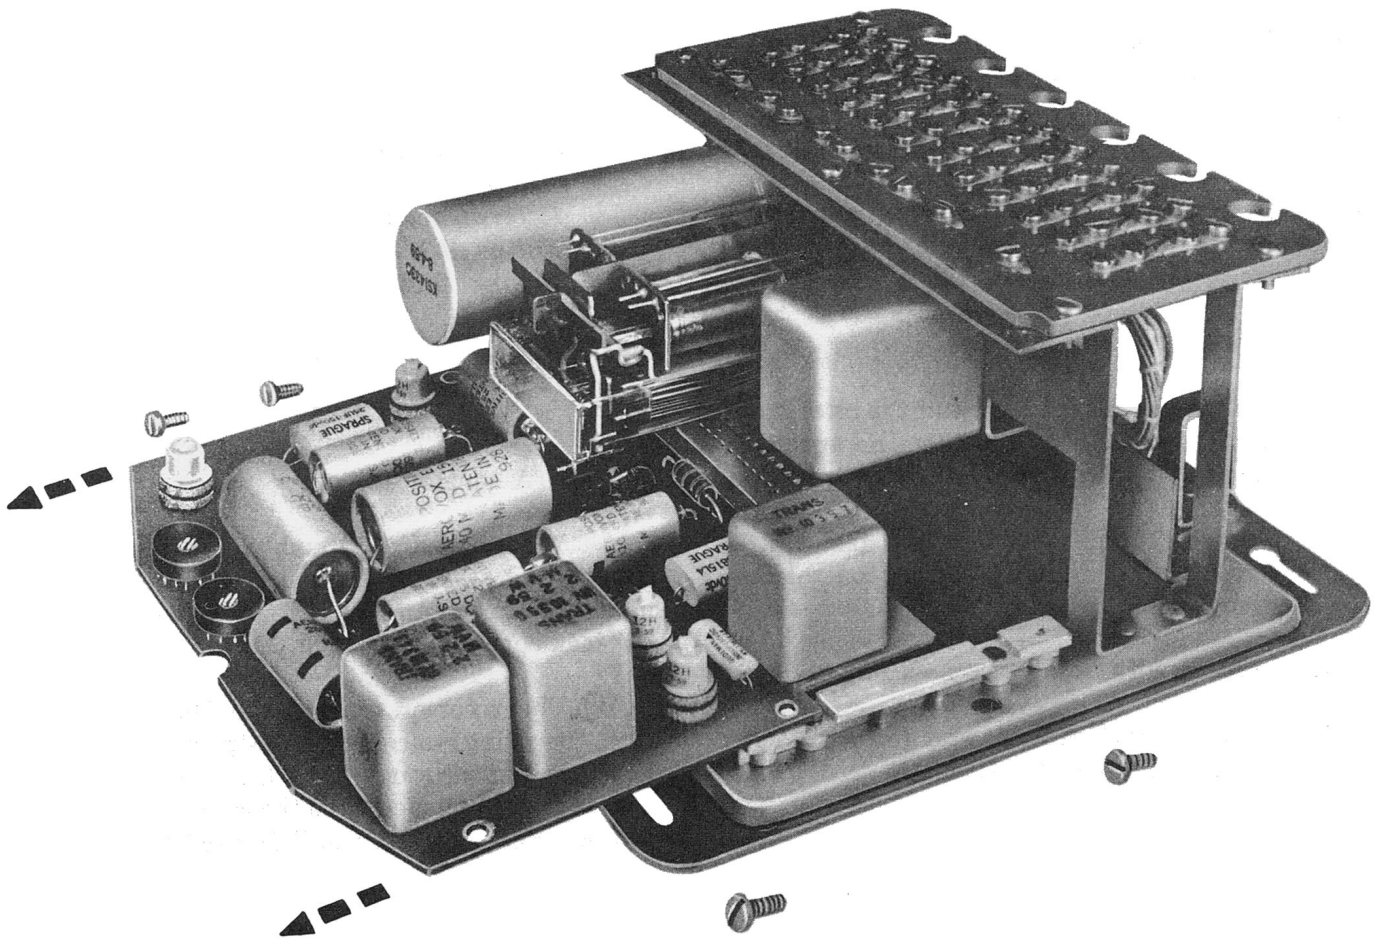

Fig. 9 – Wiring Board Assembly Removal
5.02 Wiring board assembly is removed from the 51A control unit by removing the four mounting screws and pulling the board away from the jack connector (see Fig. 9).